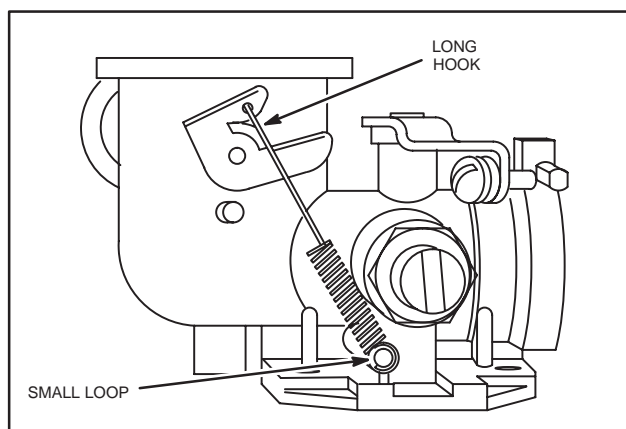

Fig. 161 – ASSEMBLE CHOKE-A-MATIC® SPRING
**NOTE:** On vertical crankshaft Model Series 92500 (Type Number 0600 and under) hook small loop on post on carburetor body and long hook on choke shaft lever, Fig. 161.